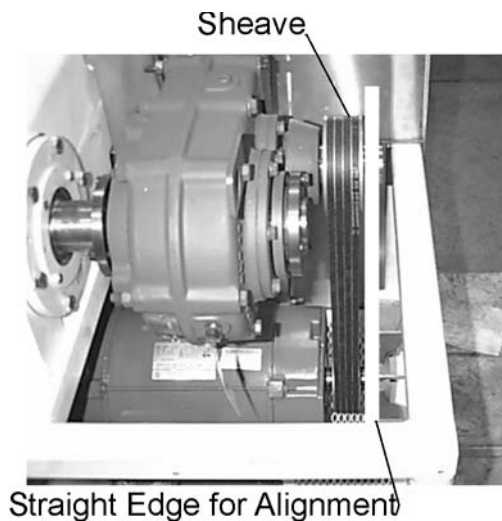

Figure 84 Sheave Installation and Alignment
5. Install drive sheave on reducer. See Figure 84
6. Use a straight edge to align the reducer sheave with the motor sheave. See Figure 84
screws in the fan hub and slide off shaft. See Figure 84